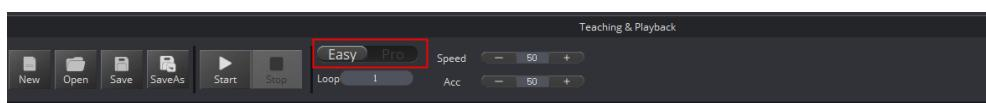

Figure 5.175 Switch advanced function
**Step 2** Click **Easy** icon on the **Teaching&Playback** page, as shown in Figure 5.175.